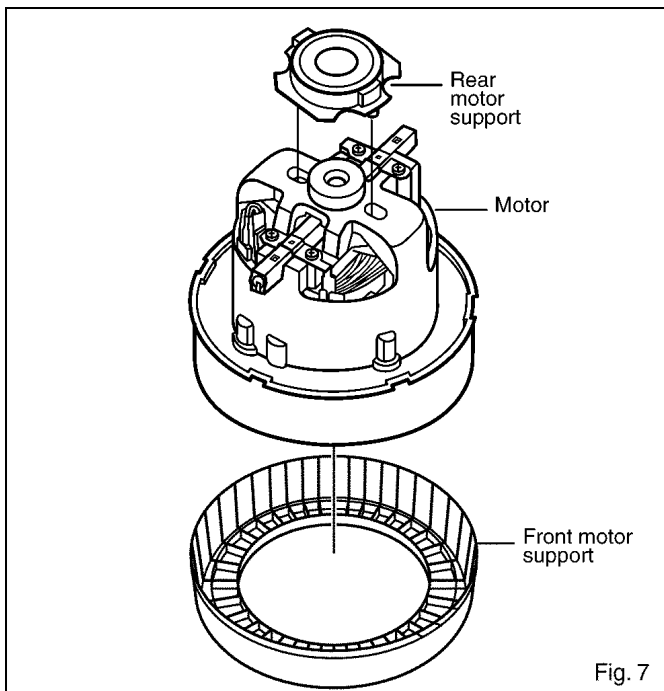

Fig. 7
7. Remove from the motor front / rear motor support and replace with a new one. (Fig.7)